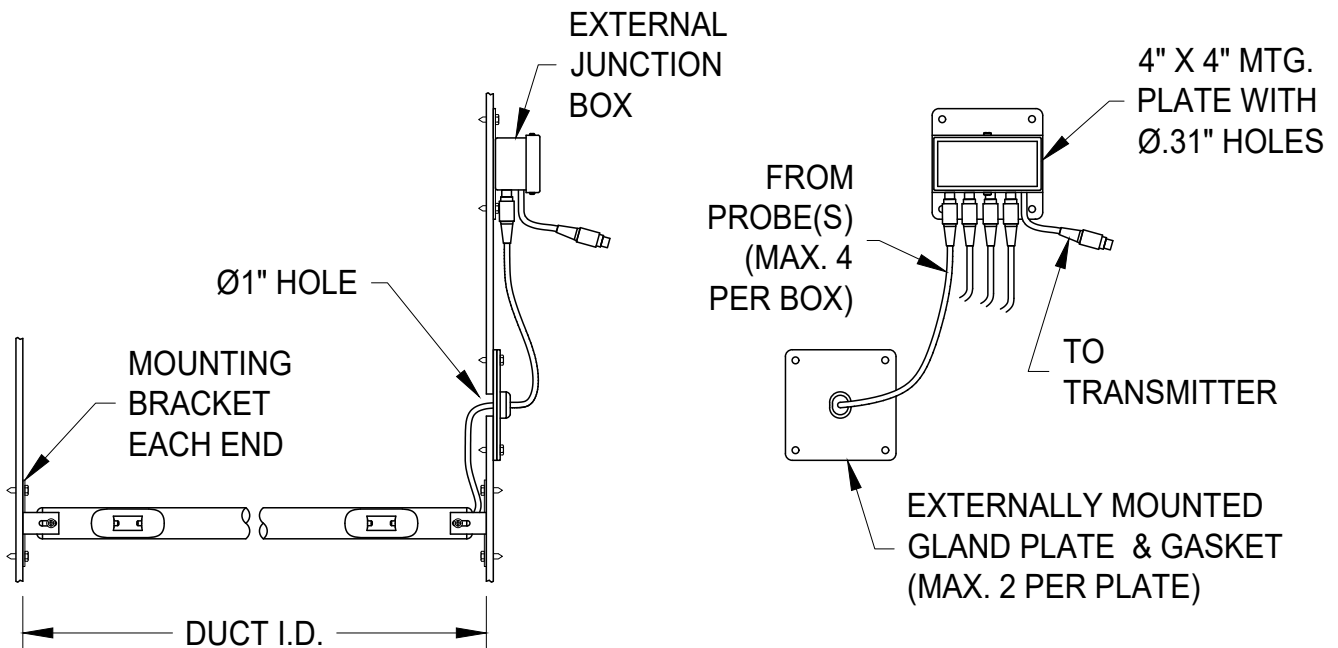

Figure 10
- Mounting requires a 1.00" diameter hole to allow the signal cable to be run to the junction box, which connects to the transmitter. See Figure 10 for mounting details.